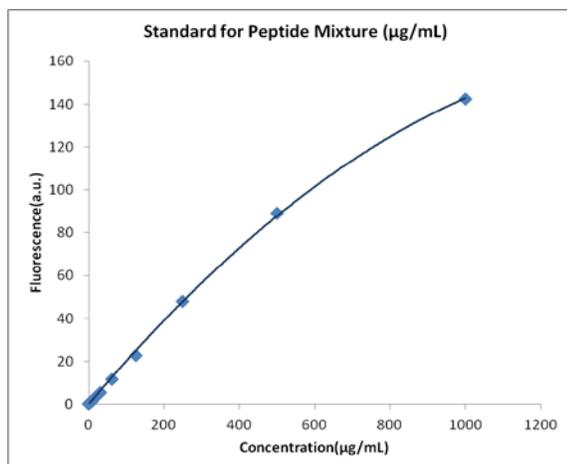

Figure 1. Example standard curve for peptide mixture.
- For samples that contain complex mixtures of peptides generated from a tryptic digestion, use the procedure in Table 1 to prepare a dilution series of the Peptide Digest Assay Standard to generate a standard curve (Fluorescence vs. $\mu\text{g/mL}$, Figure 1). Dilute the Peptide Digest Assay Standard into clean vials, preferably using the same diluent as the sample(s). The method in Table 1 will provide sufficient volume to run a 9-point standard curve (from 0-1000 $\mu\text{g/mL}$) in triplicate.